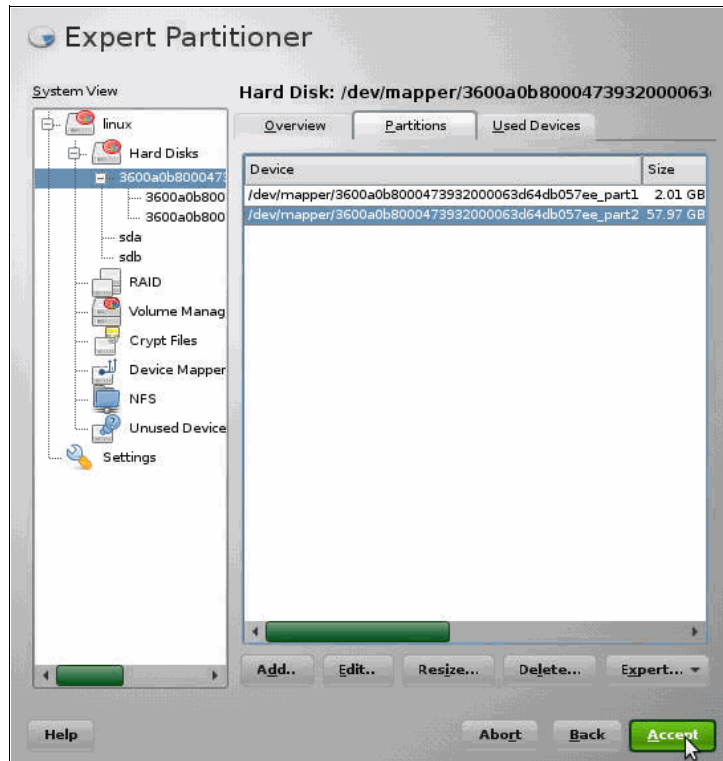

Figure 2-101 New Partitions shown
- You can see the two new partitions that we created, as shown in Figure 2-101. Verify the drive size and click **Accept** to accept the changes.